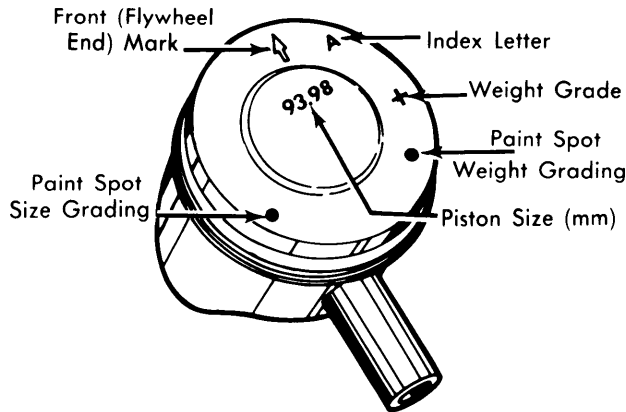

Fig. 6 Top View of Piston with Detail of Piston Markings
2) If clearance exceeds .008" (.20 mm), replace piston and cylinder as a set. New piston must be of same weight grade as original or within 10 g of original piston weight. Piston size, weight and installation position are marked on top of piston (Fig. 6).